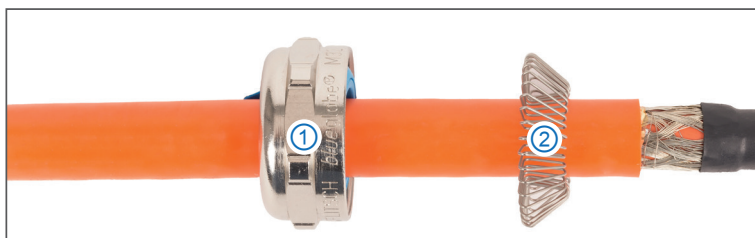

Fig. 4-9: Sliding pressure screws and springs onto the HV power cable
- ☞ Reinsert the spring into the PG gland, attach the pressure screw to the thread and tighten it by hand (Fig. 4-9).